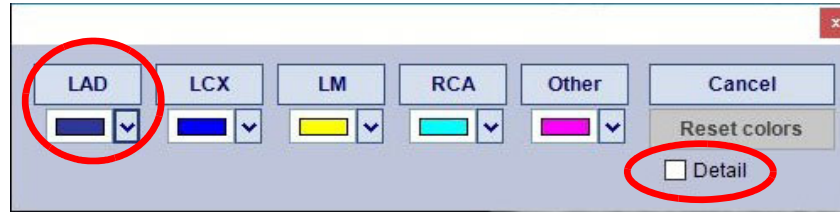
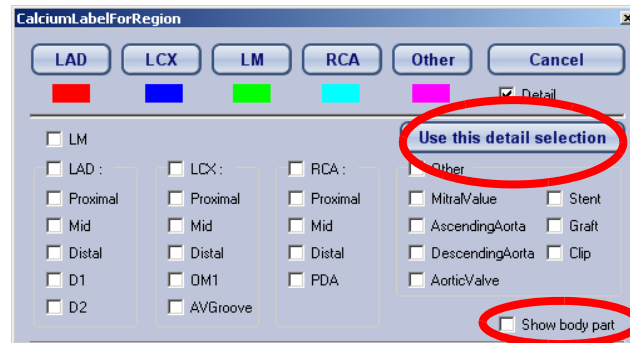
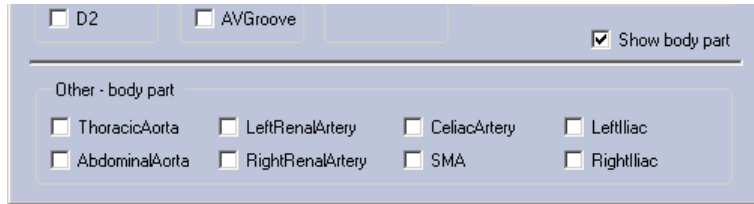

Figure 11-9: Select Region Dialog
Figure 11-10: Calcium Label For Region
Figure 11-15: Artery Detail Dialog
Once the lesion area is defined, a dialog window opens, where you can select the appropriate artery (see Figure 11-9).
4. If you need to include more detail, check the **Detail** box (circled in Figure 11-9). The dialog is expanded to show greater detail about the main vessels (see Figure 11-15).
You can now score by vessel instead of by slice. After selecting the first lesion, the dialog box will appear and remain on the screen until the “Complete” box has been selected (pictured above in Figure 11-10). This allows for the option of detailed scoring.
1. In the CA Scoring workflow, RMB-click on a calcium area on the image and open the Select Region Dialog. (Figure 11-9)
If the lesion is not in a coronary artery, you can specify the location of the body part. Check the **Show body part** box in the lower-right corner of the dialog (circled in Figure 11-10). A third section is shown beneath the detail section, where you can check which part of the body contains the artery (see Figure 11-15).
If you have included details, click the **Use this detail selection** button (circled in dark blue, in Figure 11-10) to complete the segmentation. Otherwise, click the name of the artery in the upper portion of the dialog. The lesion is highlighted to show segmentation.
Select a lesion using **Shift** + click. The entire lesion is selected and highlighted. If you want to select only part of a lesion, you can press the **Shift** key and manually drag the mouse around the desired area (shown in the following figure). When the area is encircled, release the mouse. The dialog (shown in Figure 11-9 on page 11-7) is opened. Follow instructions 1 - 4, explained above, to use the dialog.